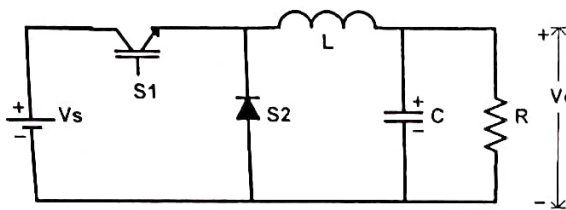

Fig.1
1. In the buck converter shown in Fig.1,  $V_s=30V$ ,  $R=20\ \Omega$ . The inductor has a parasitic resistance of  $0.02\ \Omega$  and the input source has an internal resistance of  $0.01\ \Omega$ . The ON state voltage drops of the switches  $S_1$  and  $S_2$  are  $0.8V$  and  $0.6V$  respectively. The switching frequency is  $25KHz$  and the duty ratio ( $D$ ) of the switch  $S_1$  is  $0.8$ .
1. A buck-boost converter with ideal components is shown in Fig.1  $V_s=30V$ ,  $L=30\mu H$ , output power  $P_o=135W$ . The switching frequency is 50 KHz and the duty ratio of the switch  $S_1$  is 0.6.
- A buck converter operating in continuous conduction mode (CCM) is shown in Fig.1.  $V_s=30V$ ,  $R=20\ \Omega$ ,  $L=0.4mH$ . The inductor has a parasitic resistance of  $0.02\ \Omega$  and the input source has an internal resistance of  $0.01\ \Omega$ . The ON state voltage drops of the switches  $S_1$  and  $S_2$  are  $0.8V$  and  $0.6V$  respectively. The switching frequency is  $25KHz$  and the duty ratio ( $D$ ) of the switch  $S_1$  is  $0.8$ .